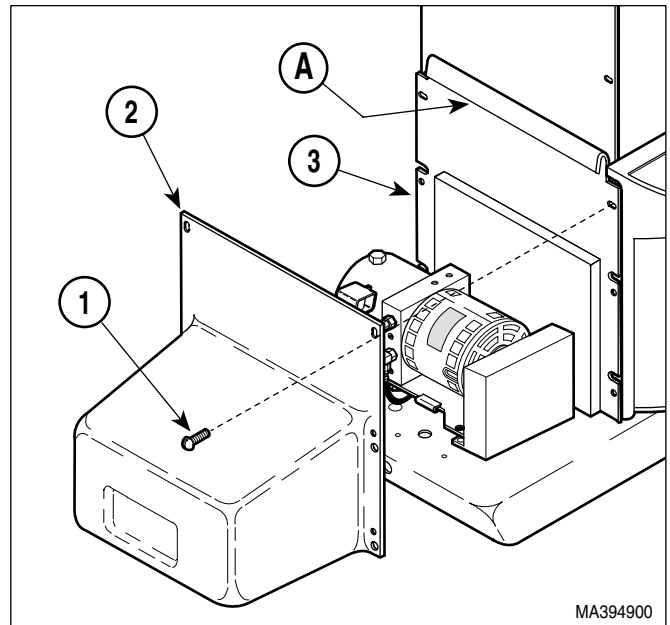

**Figure 4-1. Motor Cover Assembly
- (2) Remove six screws (1, Figure 4-1) and motor cover assembly (2) from back outer shroud (3).